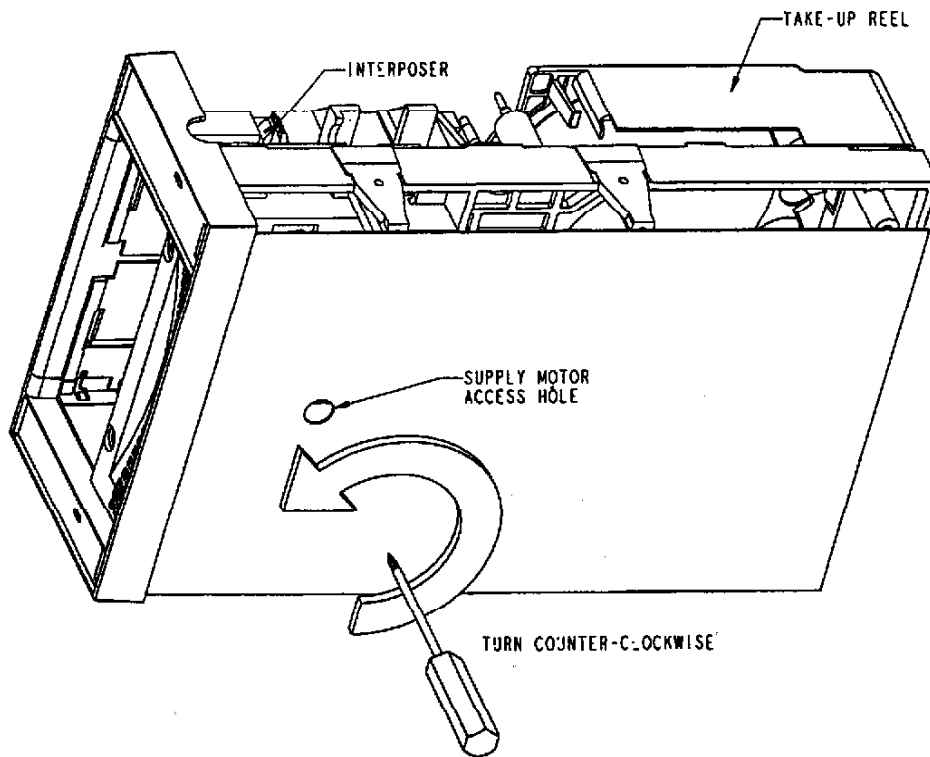

Figure 11 **Manual Rewind**
1. Turn the complete assembly on its side with the handle motor up and toward you. Ref. Figure 11.